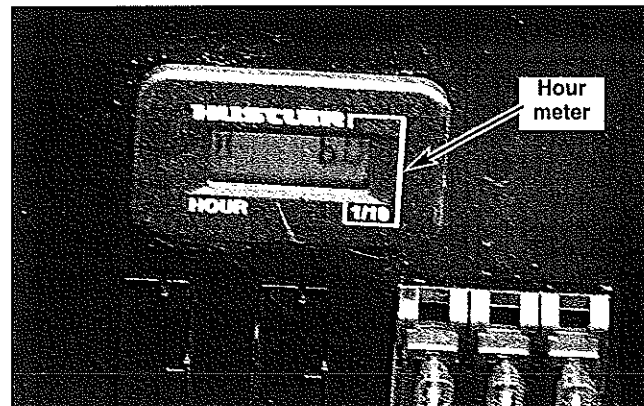

Figure 3-5
J. **Electronic hour meter (Fig. 3-5)** — registers 1/10 hour increments up to 9,999.9 total hours. Connected to the ignition switch, the meter records the accumulative time while the ignition key is switched to the RUN position. **NOTE:** The hour meter is found in various locations on different tractors. **NOTE:** There is no hour meter on FasTrak 36/42 tractors.